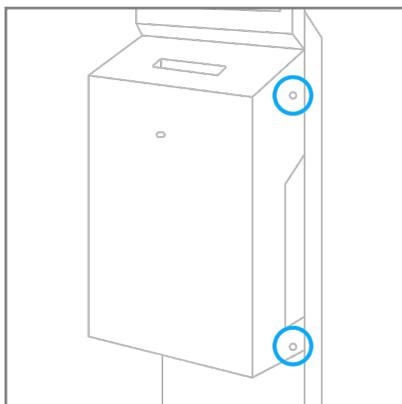
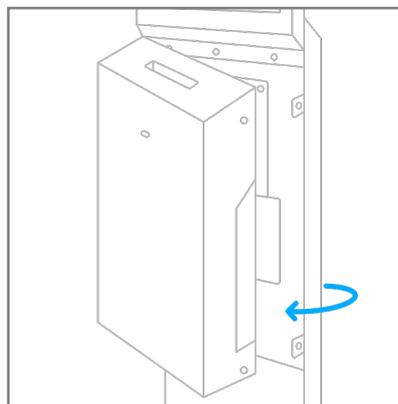

Figure 22.
Figure 23.
Step 1: Loosen the two recessed screws on the right side of the Swift UV's main housing with the provided Phillips screwdriver and rotate the main housing open (Figure 22. and Figure 23.).
Step 2: Turn Power Switch to the "OFF" position (O).